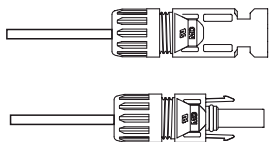

Figure 4.11 Connector with Cap nut Screwed on
4. Insert the contact pin to the top part of the connector and screw up the cap nut to the top part of the connector .(see figure 4.11).